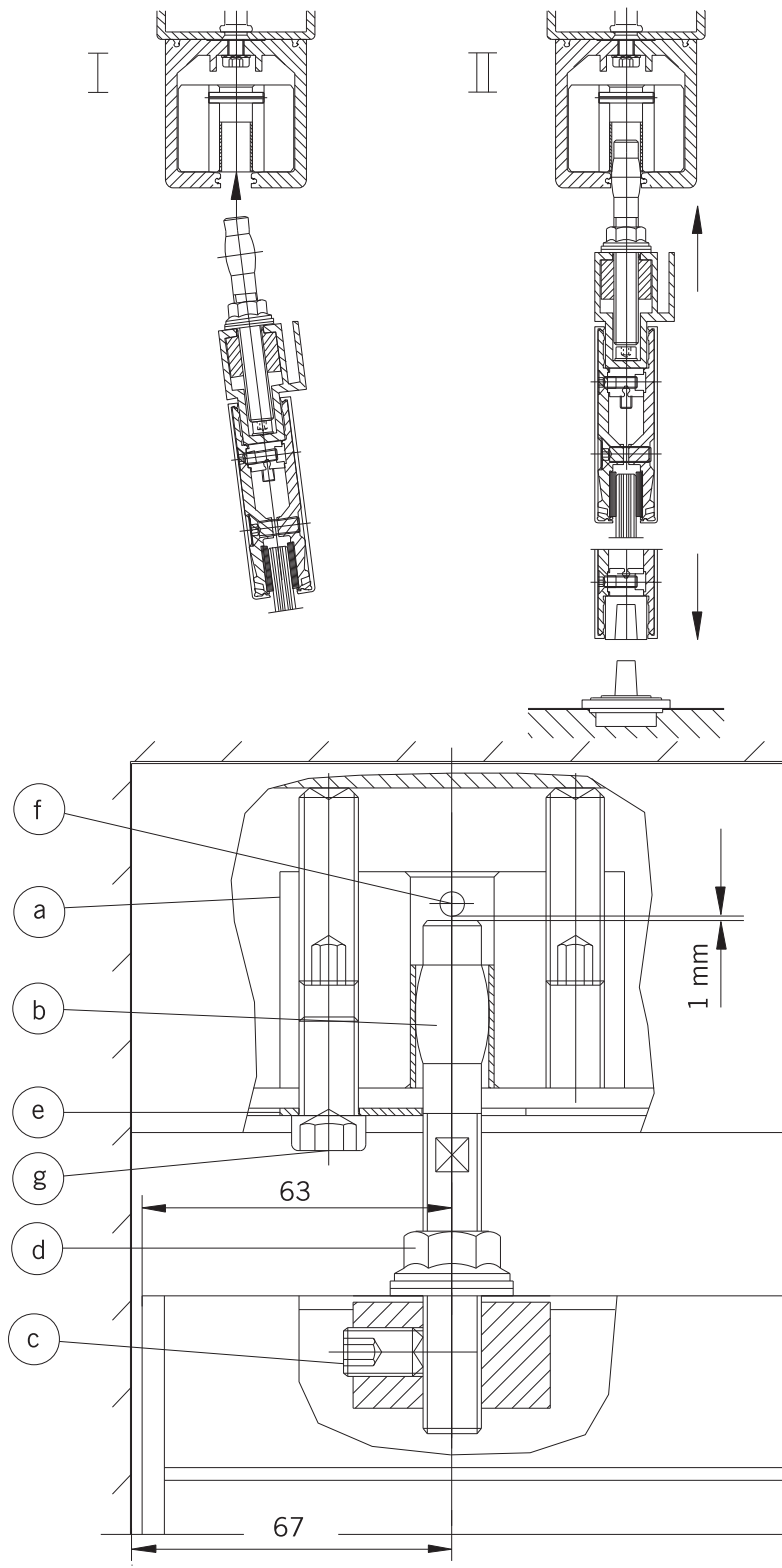

Fig. 4
4. Installing the end panel (Fig. 4):